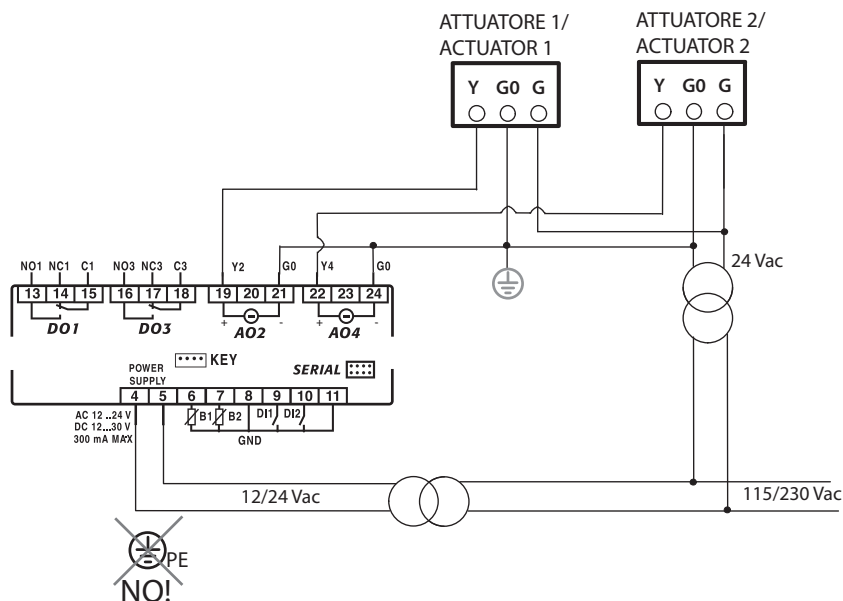

Fig. 2. t
⚠ If the actuators connected to the analogue outputs require, the earth connection (PE) can be made, making sure that this is to G0 of the outputs, as shown in Figure 2.t.